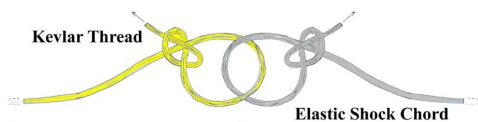

Figure 6
- **Step 14** Tie a slip knot loop in the free end of the Kevlar thread. As shown in Fig. 6 above, push one end of the elastic shock chord through the Kevlar loop, and tie a slip knot loop in it, trapping the Kevlar loop. Pull the two knots tightly against each other, then apply a droop of thinned glue to the knots to secure them. Allow to dry.